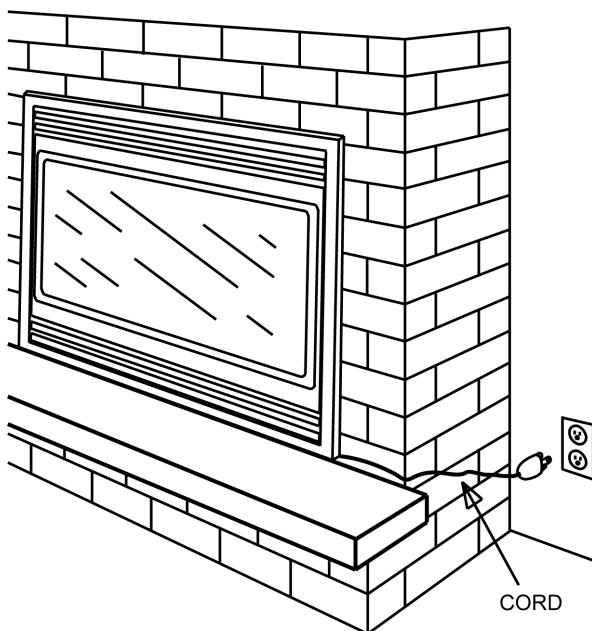

FIGURE 2
4. The power cord can run along the front of the hearth to an outlet near the fireplace (FIGURE 2).